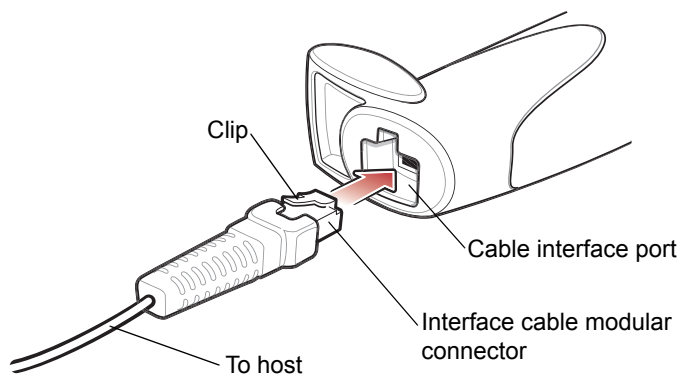

Figure 1-3 *Installing the Cable*
1. Plug the interface cable modular connector into the cable interface port on the bottom of the scanner handle. See Figure 1-3.